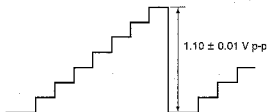

Fig. 3-8
4. Observe the TP503 (B IN) with an oscilloscope, and adjust the RGB A.GAIN level so that the signal level will be $1.10 \text{ V} \pm 0.01 \text{ V p-p}$. (Fig. 3-8)